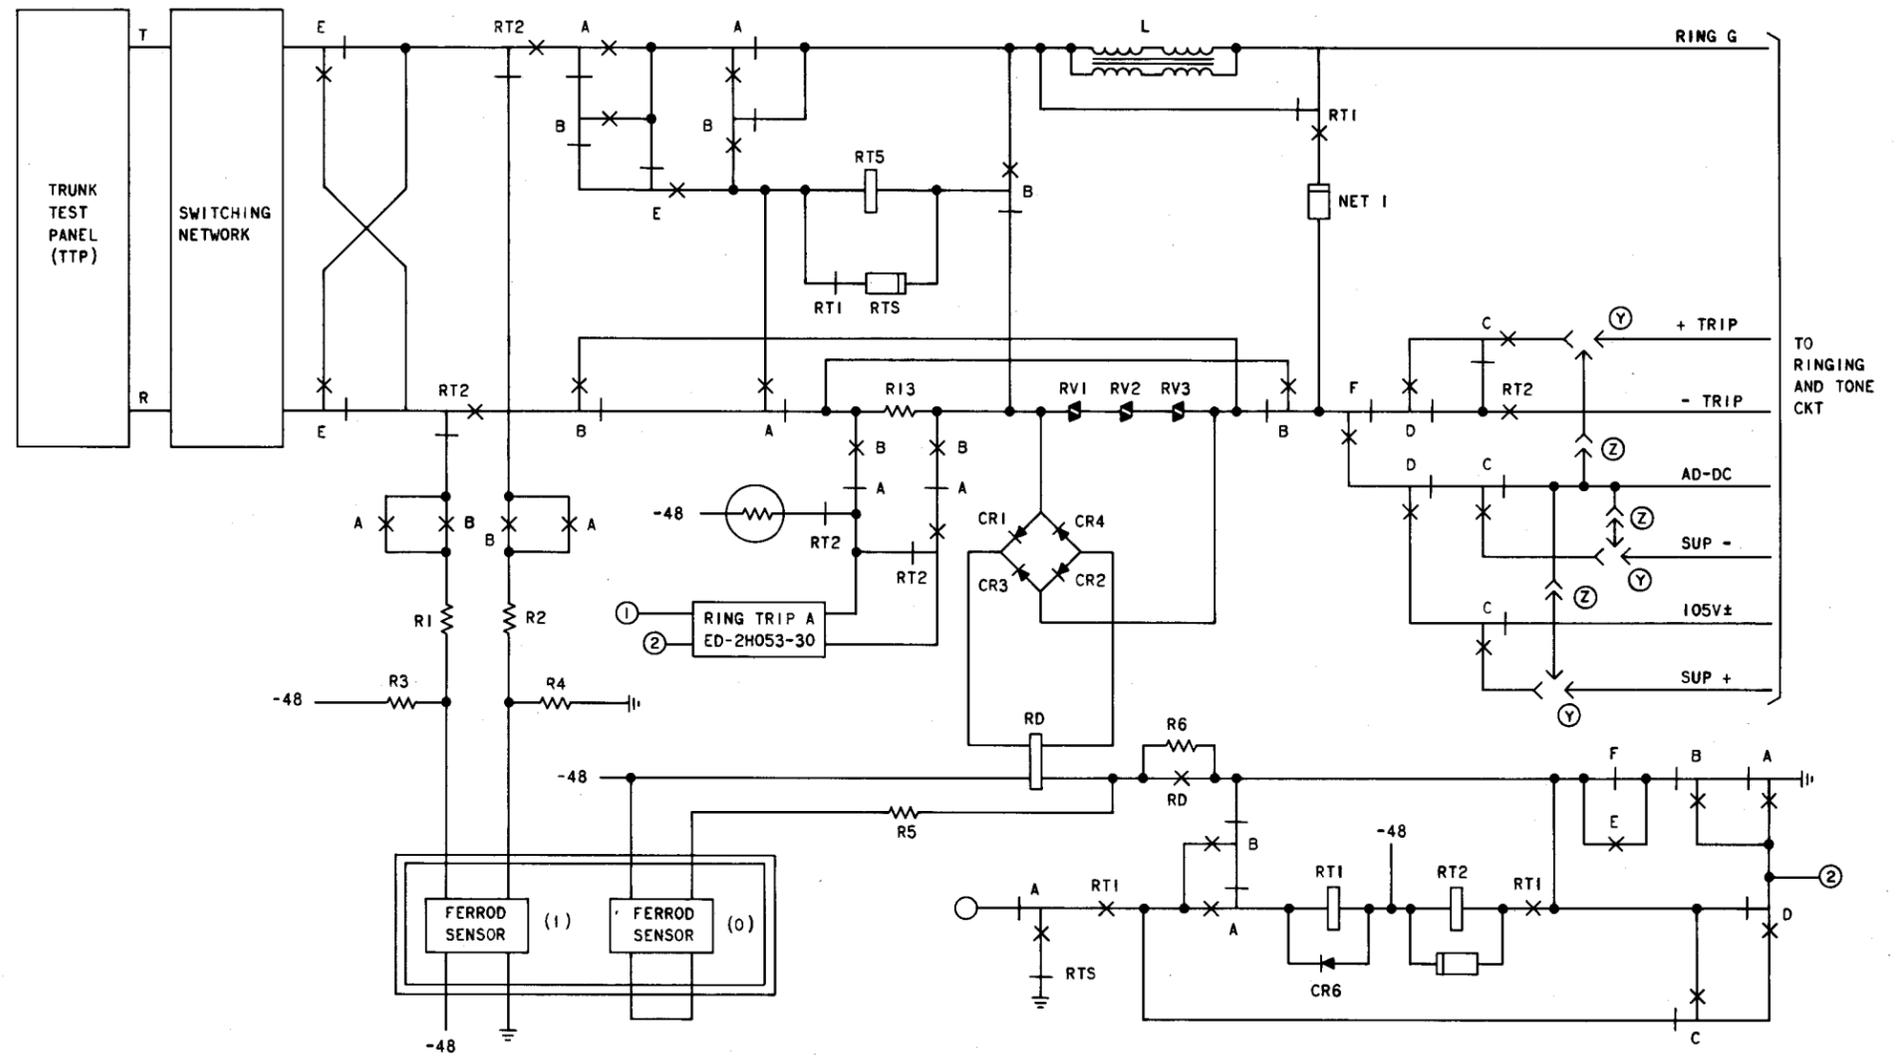

Fig. 1—Special Ringing Circuit (SD-2H126-01)
**3.03** The following is a step-by-step procedure to make the ringer circuit traffic busy and connect it to the TTP (Fig. 1 and 2).